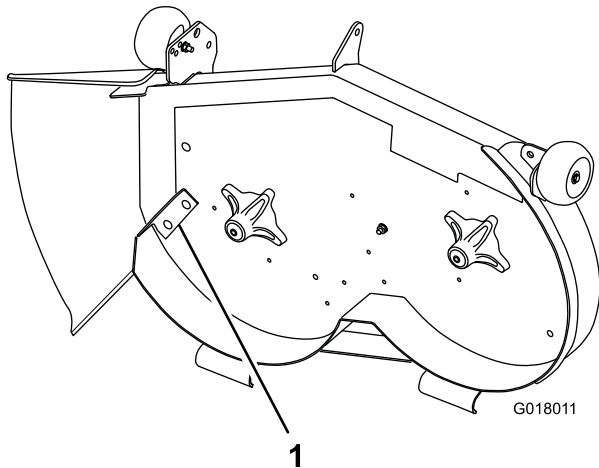

Figure 27
7. Install the cutoff baffle (supplied with the mower) at the side-discharge opening on the mower deck (Figure 27).